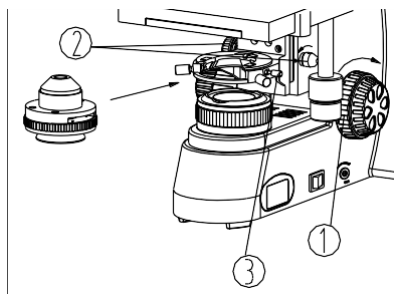

Fig.4
- (1) Rotate the coarse focusing knob① to raise the stage to the highest position (see Fig. 4).
- (2) Rotate the condenser up-down knob② to lower the bracket of condenser to the suitable position.
- (3) Fully loosen the condenser lock-screw③.
- (4) Align the orientation screw at the back of condenser with the groove of condenser base, and push the condenser to the innermost of the condenser base.
- (5) Tighten the lock-screw③ of condenser, then raise the condenser with the up-down knob② to the highest position.